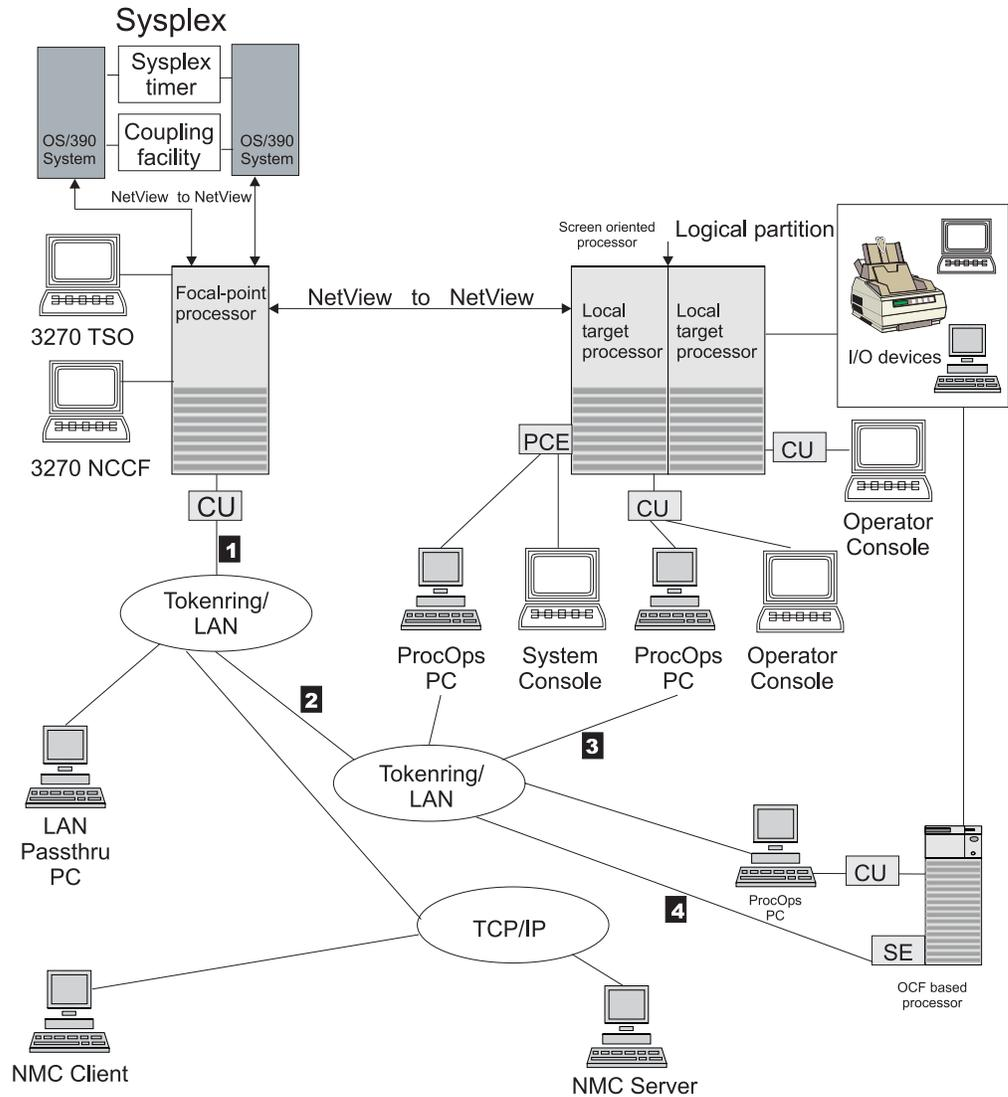

Figure 1. A Basic Hardware System
Figure 1 on page 19 illustrates a basic hardware system and some of the types of hardware resources that can be attached.
See **1**, **2**, **4** in Figure 1 on page 19: A type of network-accessible port — also called a VTAM® or *NetView connection* (NVC) — LU 6.2 permits communication between the processor operations focal point processor to the operator control facility (OCF), which runs on the service element (SE). It enables end users to gain access to SNA network resources and communicate with each other.
See **1**, **2**, **3** in Figure 1 on page 19: Paths that connect the operator or system console to the processor operations focal point through a port on the processor operations PC. A target processor may also have a passthru console with a workstation path.